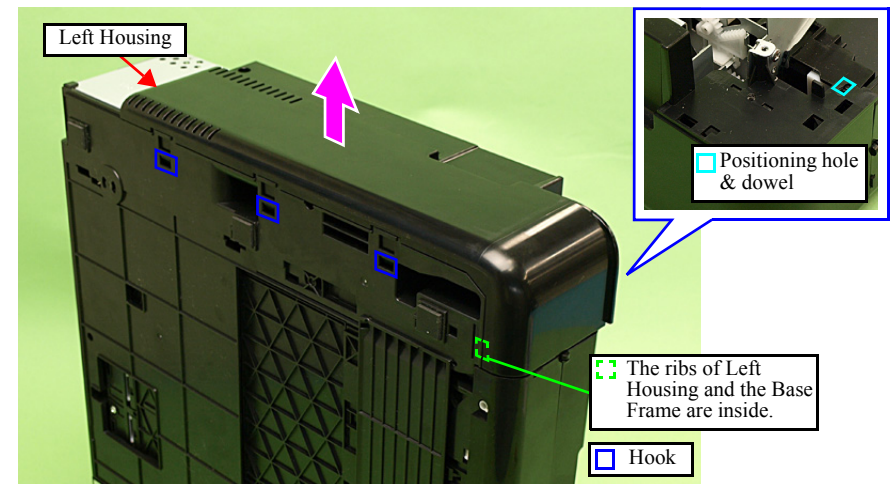

Figure 4-170. Removing the Left Housing/Decoration Belt L (2)
- Align the positioning hole of the Left Housing with the dowel of the Base Frame. (See Fig. 4-170.)